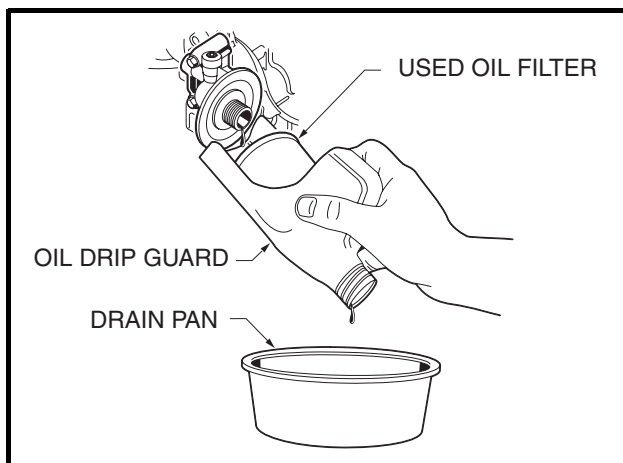

Figure 29 Remove Engine Oil Filter
9. Remove the engine oil filter, turning it counterclockwise, allowing the residual oil in the filter port and filter to drain into the oil drain pan (**Figure 29, Page 43**). **See following NOTE.**